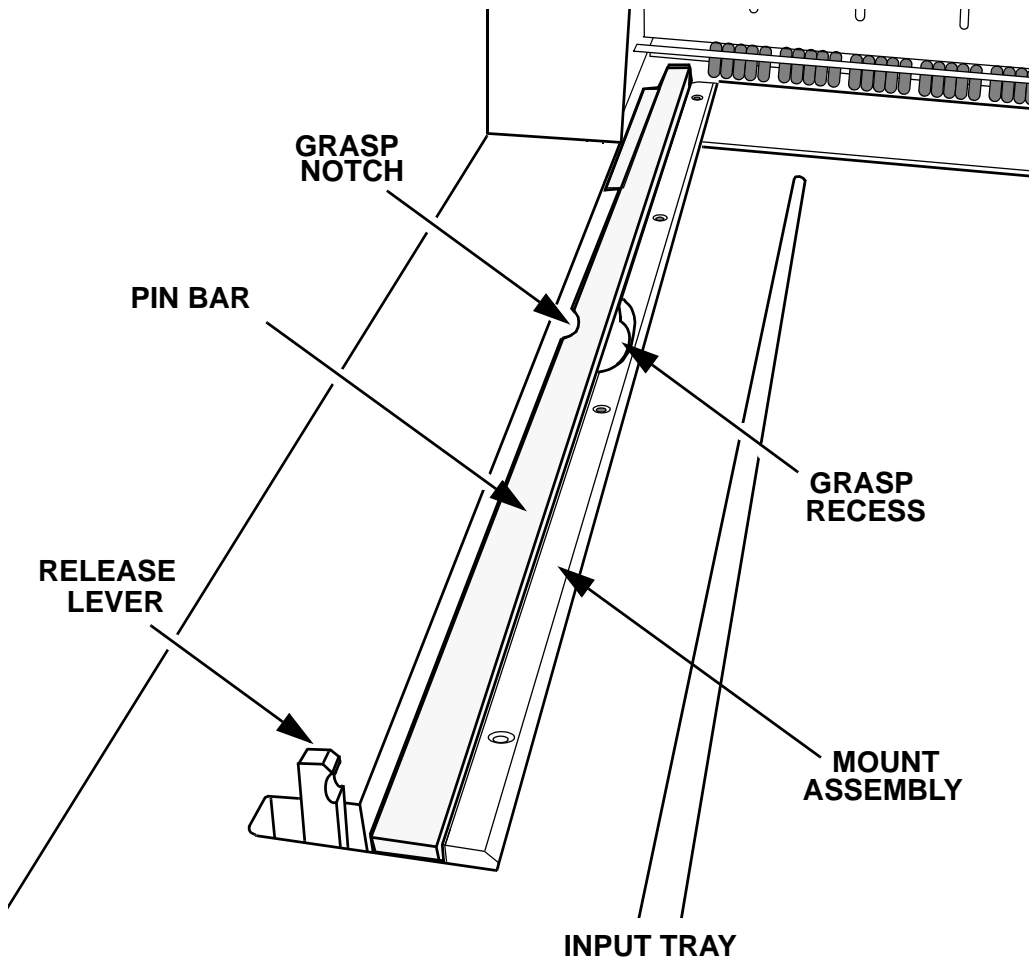

Figure 3-2 Pin Bar (in place in the pin bar mount assembly)
The pin bar fits into a mount assembly located on the left side of the input tray (see Figure 3-2).
- Step 2. Place your thumb in the notch in the pin bar and your fingers in the recess in the pin bar mount assembly (Figure 3-2).